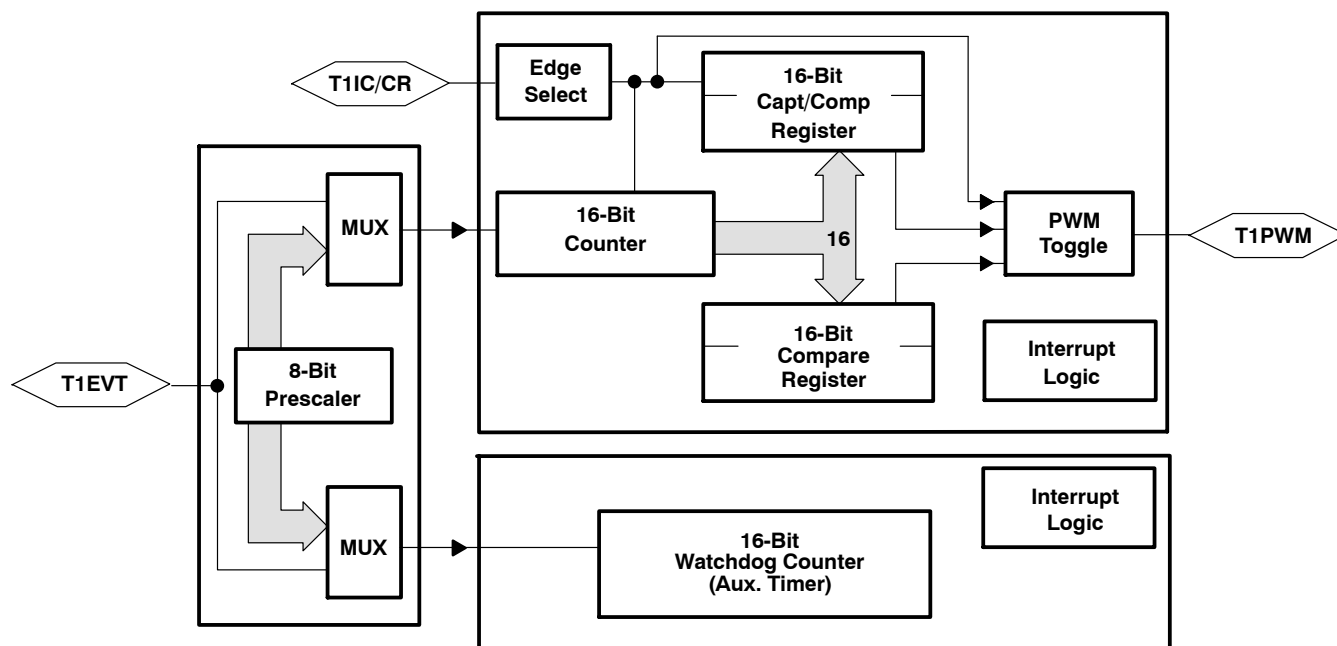

Figure 6. Timer 1 Block Diagram
The programmable timer 1 (T1) module of the TMS370Cx6x provides the designer with the enhanced timer resources required to perform real-time system control. The T1 module contains the general-purpose timer and the watchdog (WD) timer. The two independent 16-bit timers (T1 and WD) allow program selection of input clock sources (real-time, external-event, or pulse-accumulate) with multiple 16-bit registers (input-capture and compare) for special timer function control. The T1 module includes three external device pins that can be used for multiple counter functions (operation mode dependent) or used as general-purpose I/O pins. The T1 module is shown in Figure 6.